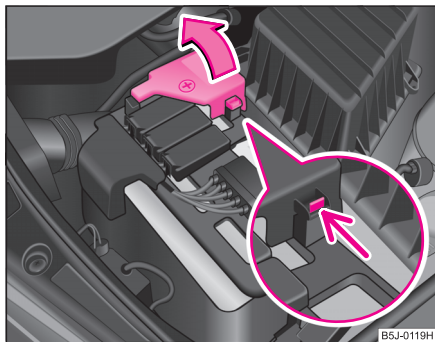

Fig. 168 The battery:
- Open the positive terminal cover (+) ⇒ fig. 168.